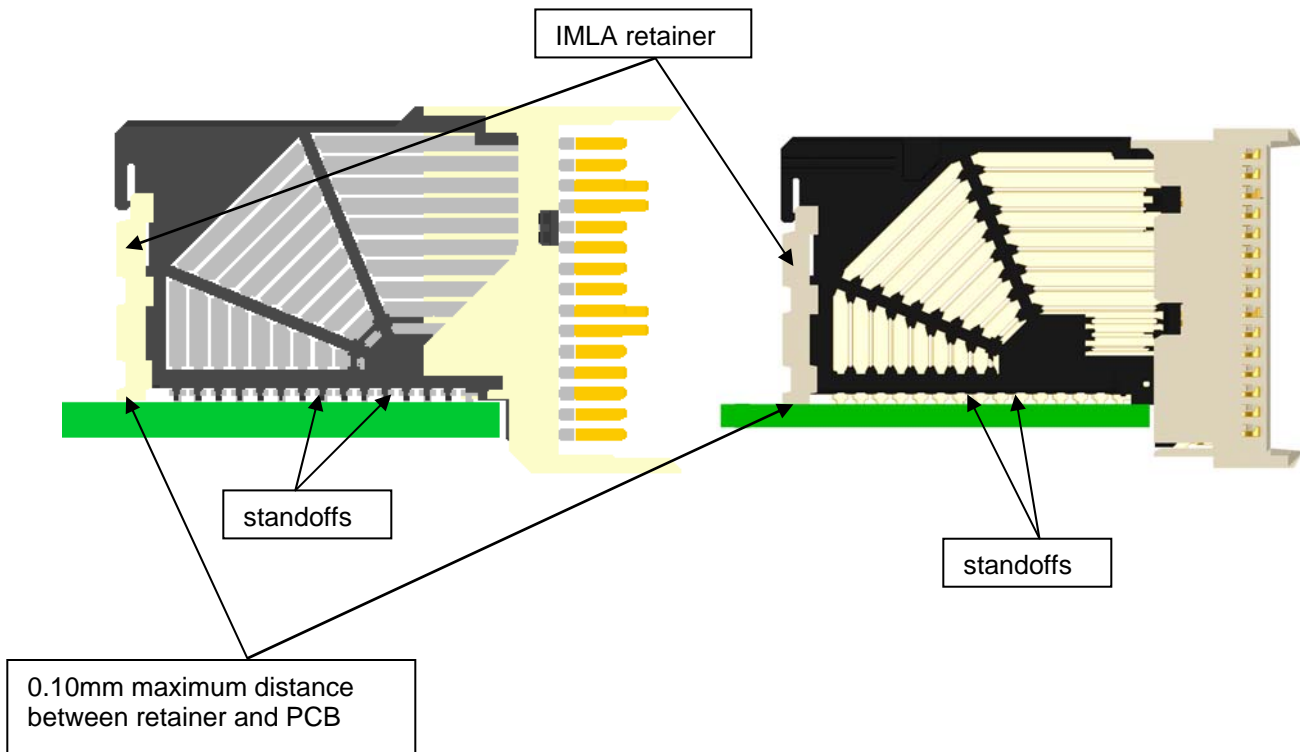

Figure 14: Proper seating depth, r/a header and r/a receptacle
- For right angle products, visually assure that the plastic standoffs on the bottom of each assembly are seated within 0.10 mm of flush to the PCB but not crushed. Inspect the IMLA retainer for a maximum clearance to the board of 0.10mm (see Figure 14). A larger gap beneath the standoffs or retainer may indicate that the connector is not seated fully or is not seated parallel to the board. This can cause misalignment when the daughter card is mated to the backplane.